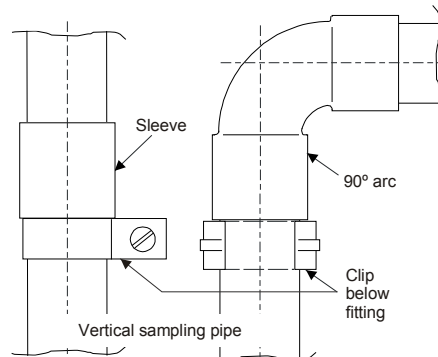

Fig. 8 Vertical sampling pipe
- For vertically arranged sampling pipe or parts thereof (e.g. in a riser or high-rack storage building) make certain that the tubes cannot slide down (fasten clips directly under fittings as shown in **Fig. 8**).